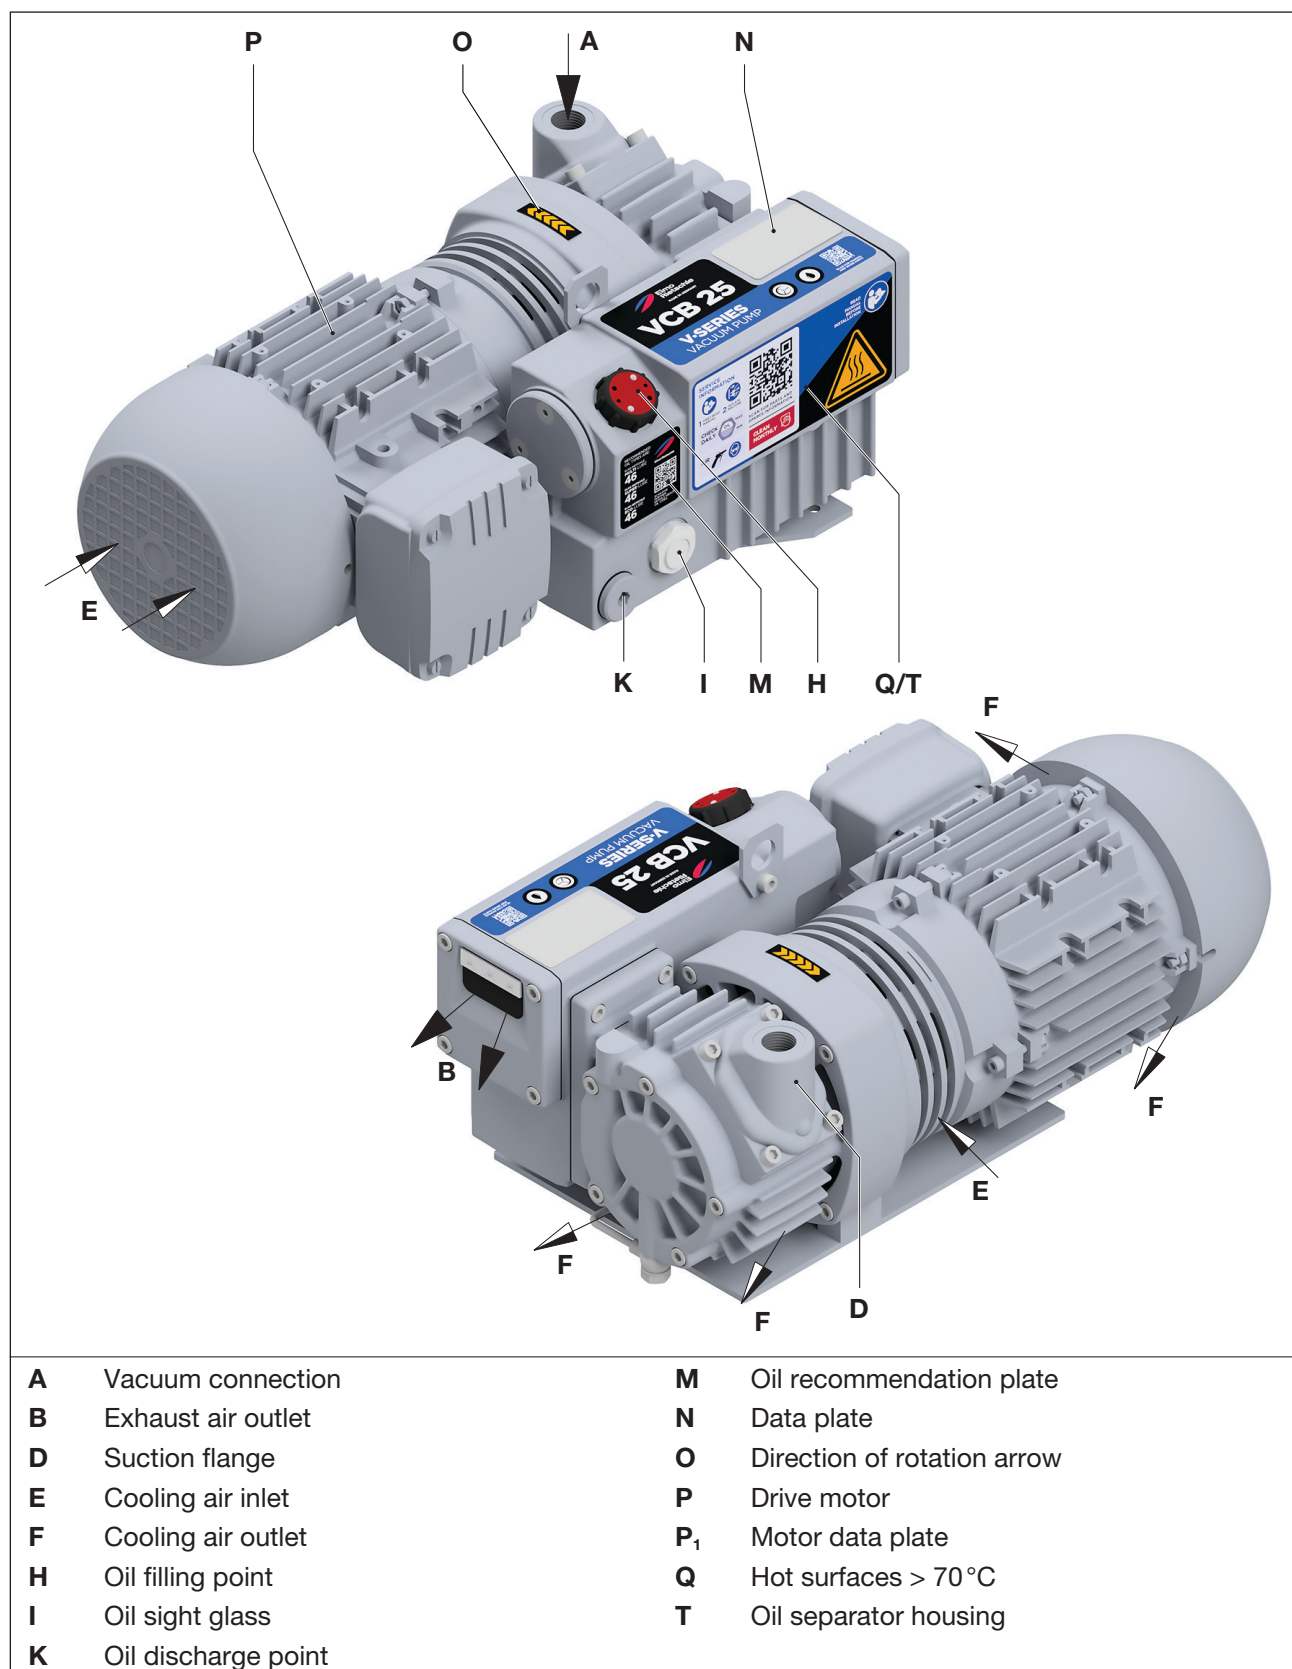

Fig. 2 Vacuum pump V-VCB
- Suction flange (Fig. 2/D), oil filling point (Fig. 2/H), oil sight glass (Fig. 2/I), oil drain (Fig. 2/K) and oil separator housing (Fig. 2/T) must be easily accessible.
The vacuum connection (Fig. 2/A) is located on the suction flange (Fig. 2/D).
The exhausted air will be blown out through the exhaust air outlet (Fig. 2/B)
- a) Remove the blind plug on the vacuum connection (Fig. 2/A) and remove exhaust air outlet (Fig. 2/B).
- b) Connect the pipes with the vacuum connection (Fig. 2/A).
- c) The extracted air can be blown out through the exhaust air outlet (Fig. 2/B) or led away by means of a hose or pipe.
- a) Check the lubricating oil level through the oil sight glass (Fig. 2/I) and top up, if necessary. See chapter 7.6 “Lubricating Oil”, page 26
Please find the electrical data of the motor on the data plate (Fig. 2/N) or the motor data plate. The motors comply with DIN EN 60034 and are designed in protection class IP 55 and insulation class F. The appropriate connection diagram is located in the terminal box of the motor (not existing for the version with plug connection).